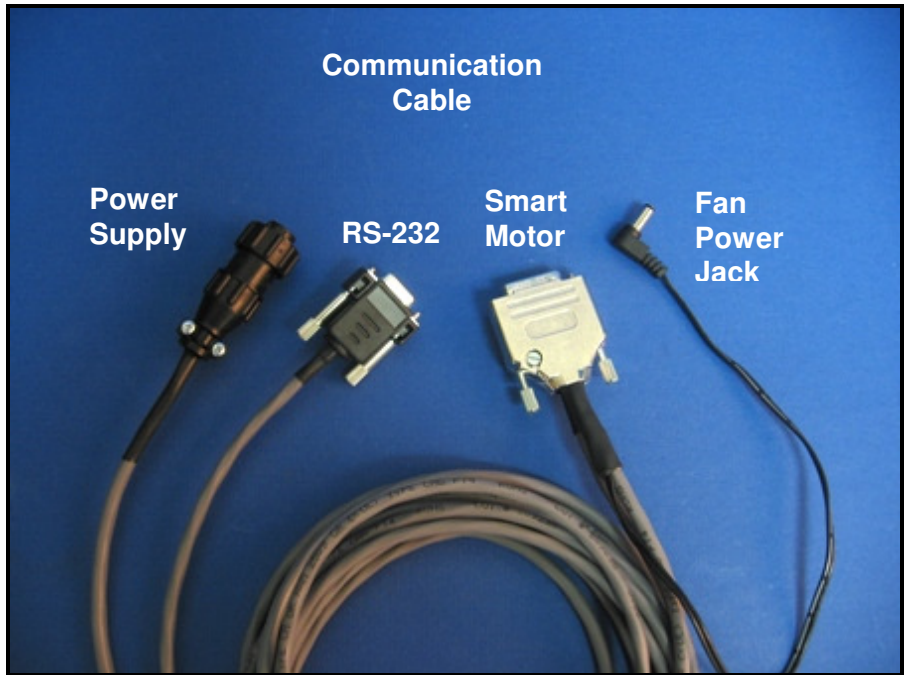

Figure 3. Communication Cable for the Smart Motor Magnetic Tumble Stirrer
2. Connect the round 2-pin DC cord of the RS-232 Communication Cable into the Power Supply. Connect the 5-pin, 2-hole plug of the Communication Cable into Smart Motor as shown in Figure 3 and 4. Connect the RS-232 plug of the Communication Cable to the computer's serial port and tighten attachment screws. This port is usually "com1" by default.
3. Connect the Fan Power Jack into the Fan Power Plug on the side of the Smart Motor (Figure 3 and 4).